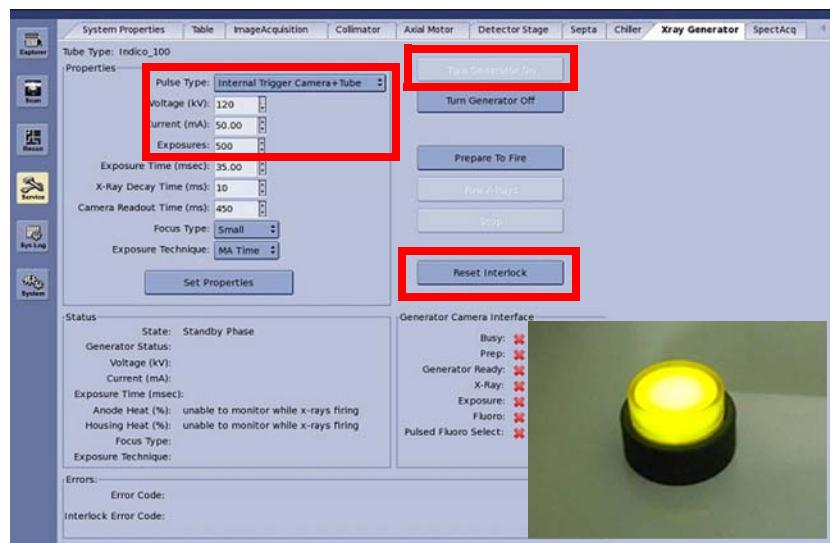

Figure 4-23
4. If lit, push the interlock reset button (inset on Figure 4-23), located next to the Console keyboard until the button is not lit.